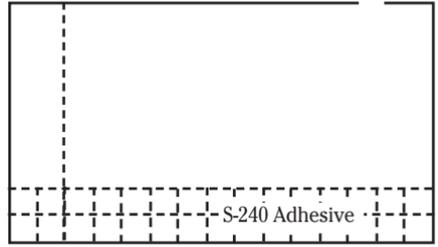

Fig. 2
1. Apply the S-599 Adhesive in two- or three-foot bands (Fig. 2). Do not apply more adhesive than you can cover within 20 minutes. Allowing a 10 minute open time and fitting the border tile tightly will reduce tile shifting and adhesive oozing. Do **not** allow the adhesive to dry completely.
1. Apply the S-240 Adhesive in two- or three- foot bands (Fig. 2). Do not apply more adhesive than you can cover within 20 minutes. Allowing a ten minute open time and fitting the border tile tightly will reduce